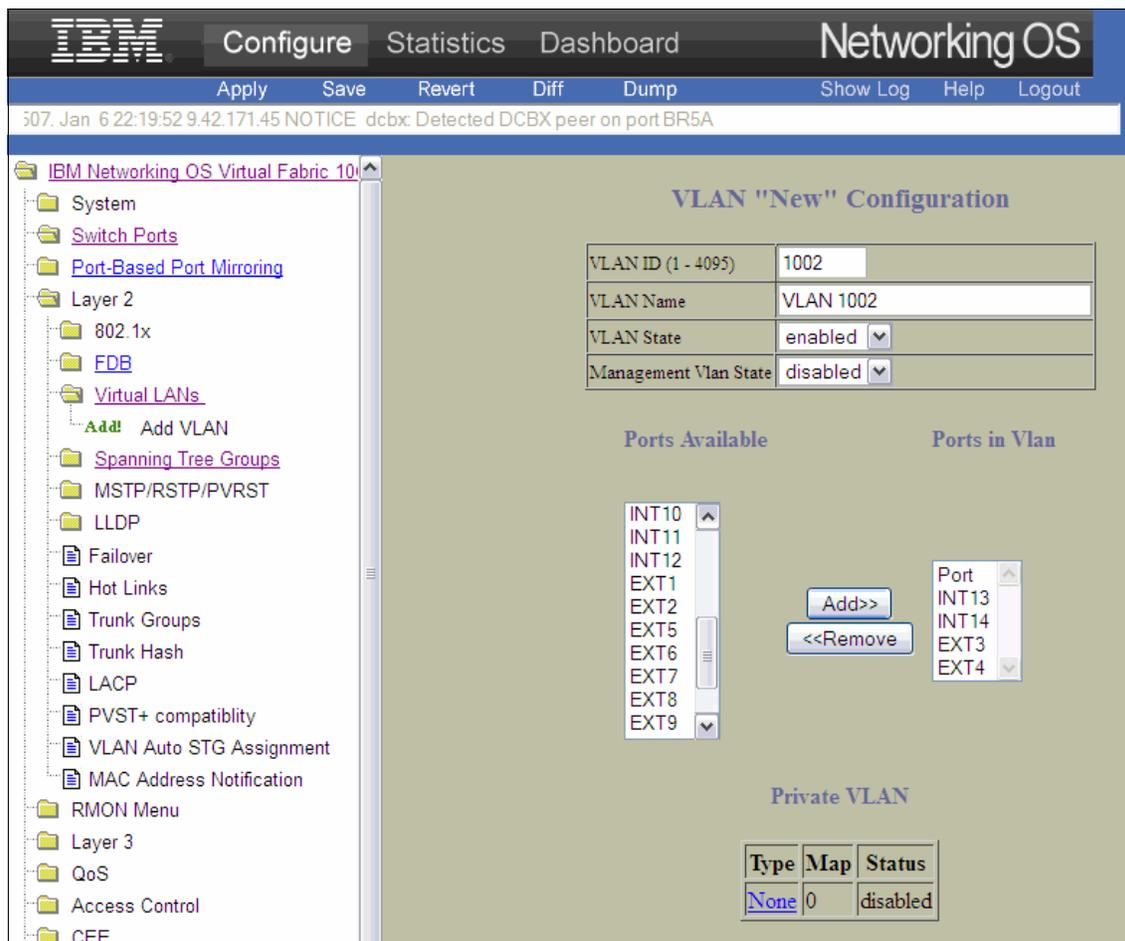

Figure 10-116 VLAN “New” Configuration pane
4. Create a VLAN, and add INT1 - 14 ports and any external ports to which you plan to connect storage (Figure 10-116):